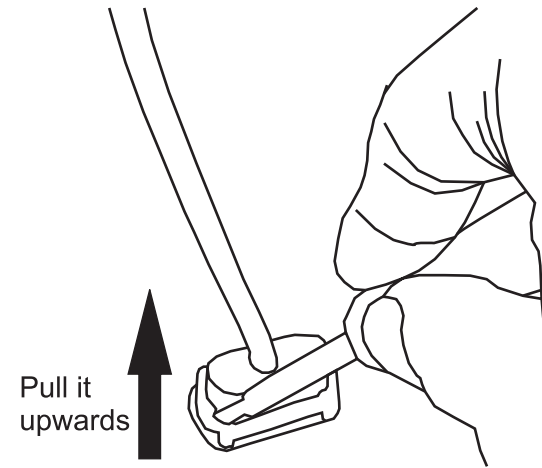

Fig. 4
- 4) After the outer cover is completely detached, take a small flat head screw driver and put it between the top ring and sensor module as shown in the Fig. 4. Pull it up to dislodge the top ring from the sensor module. It is ok for the top ring to bend or twist during this process.